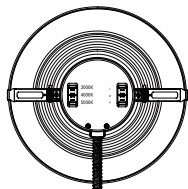

Fig. 1
- Step 1: Choose desired CCT & Wattage by simply switching the dip switch ( Fig. 1).